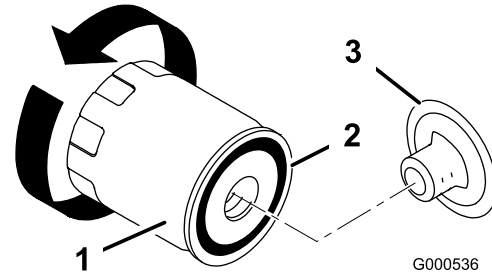

Figure 36
9. Change the oil filter, if necessary (Figure 36).
2. Remove the old filter and wipe the filter adapter gasket surface (Figure 36).
3. Apply a thin coat of clean oil to the rubber gasket on the replacement filter (Figure 36).
4. Install the replacement oil filter to the filter adapter. Turn the oil filter clockwise until the rubber gasket contacts the filter adapter; then tighten the filter an additional 1/2 to 3/4 turn (Figure 36).